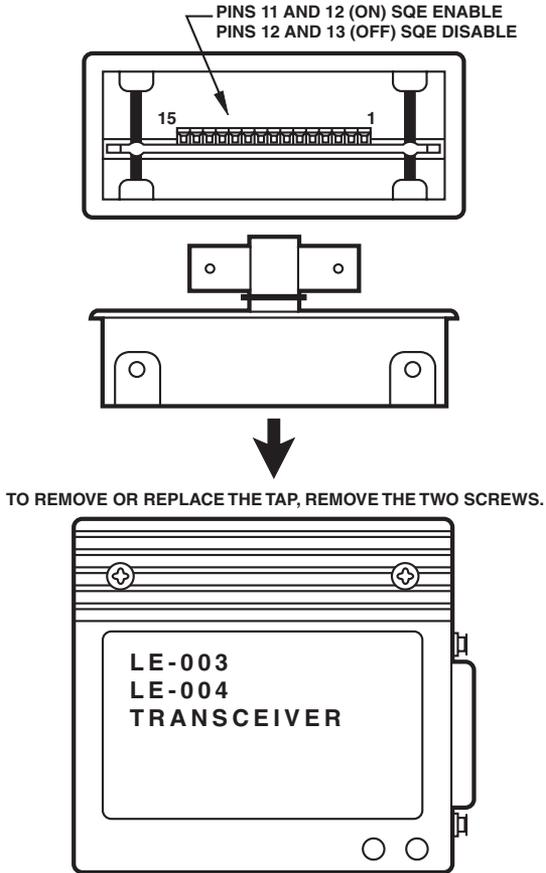

Figure 3-2. Disabling The SQE Test.
2. Locate the jumper (see Figure 3-2). Set the jumper to 0 to disable the test. To enable the test, set the switch to 1.